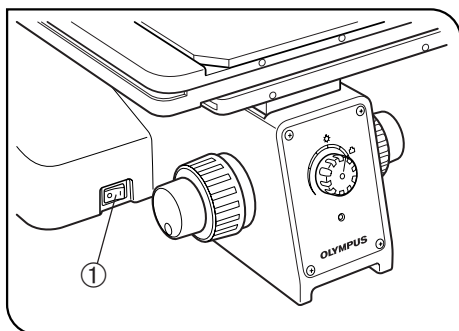

Fig. 48
## 11 Connecting the Lamp Housing Cord and Power Cord (Figs. 48 to 51)
▲Make sure that the main switch ① is set to “○” (OFF) before connecting the lamp housing cord and power cord. (Fig. 48)